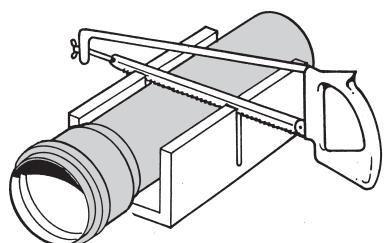
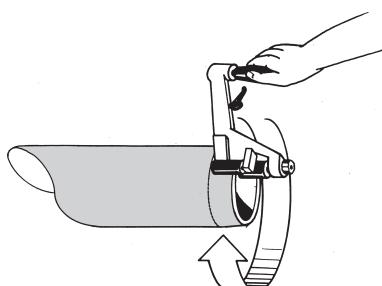

Fig. 4
Fig. 5
- 5 Coesprene® pipes and fittings have their tang perfectly chamfered to make insertion easier. If you use crop ends of pipe, make a cut precisely and perpendicular (*Fig. 4*). Then, in order to not damage the seal during coupling, chamfer using the special tool (*Fig. 5*)